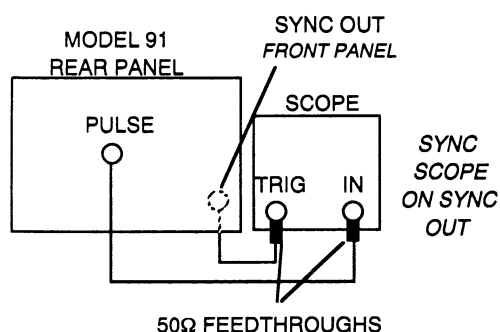

Figure 4-20. Pulse Delay Setup
1. The Model 91 displays **DELAY 0 NS (REF)**. Connect the test equipment as shown in figure 4-20.
1. The Model 91 displays **ADLY 10.0 NS HXX**. Connect the test equipment as shown in figure 4-20.
1. The Model 91 displays **DDLY 10.0 NS HXX**. Connect the test equipment as shown in figure 4-20.
1. The Model 91 displays **DDLY 20.0 NS HXX**. Connect the test equipment as shown in figure 4-20.
1. The Model 91 displays **DBL 20.0 NS HXX**. Connect the test equipment as shown in figure 4-20.